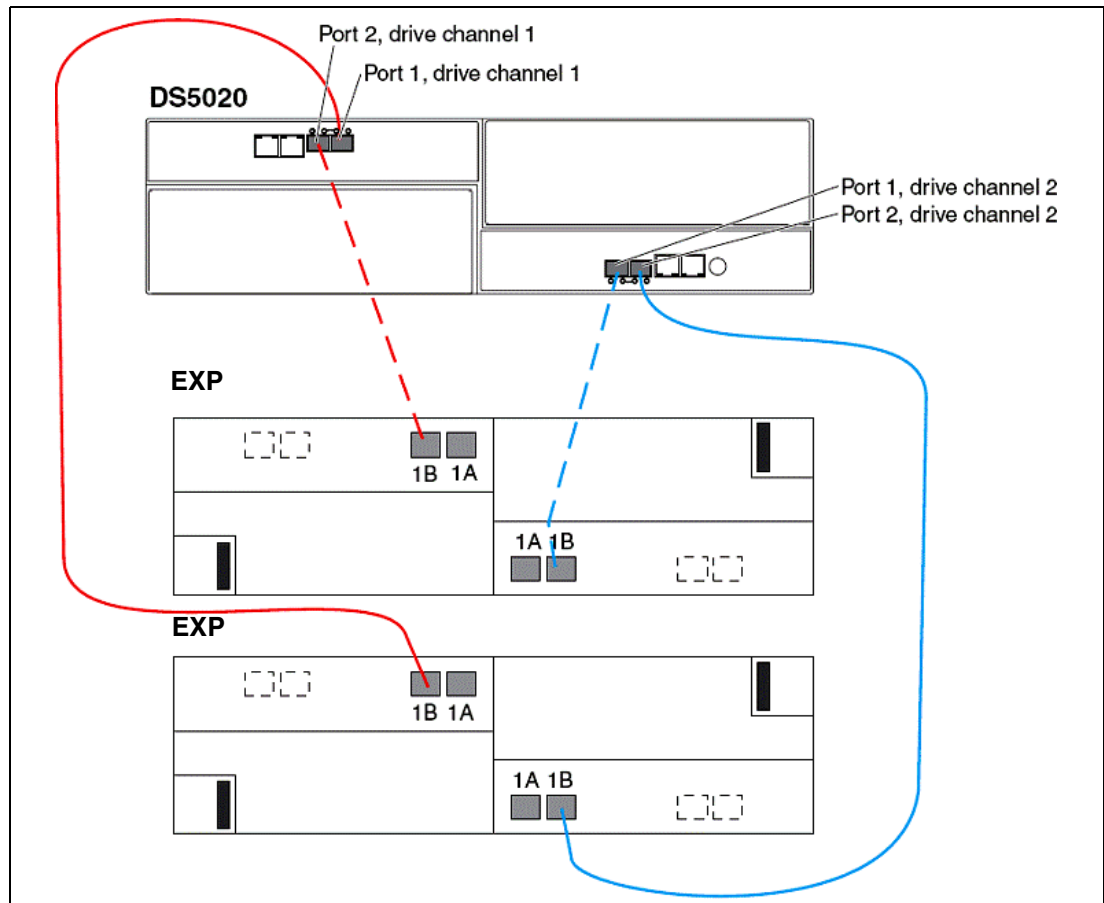

Figure 2-88 DS5020 drive cabling with two EXPs
- If you attach a second expansion unit, connect it by using the second port on the controller (controller A port 1 and controller B port 2), as shown in Figure 2-88.